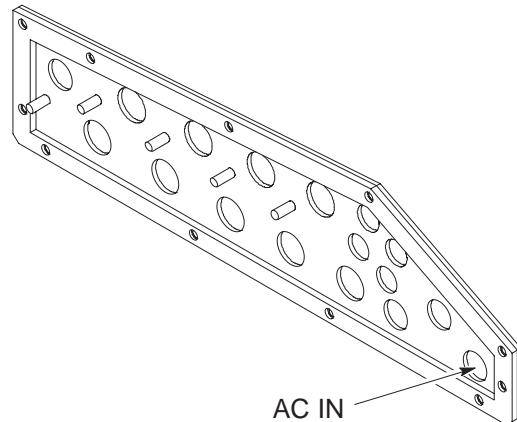

Figure 3-5 Earth plate, showing location of entry hole for ac supply cable
5. Feed the ac power cable into the *Horizonmacro* cabinet through the AC IN hole in the earth plate (see Figure 3-5) and through one of the supplied cable glands. From the outside of the cabinet, push the cable gland (with the sealing ring) into the AC IN hole, and from the inside, fit the earth tag and secure with the locking nut.